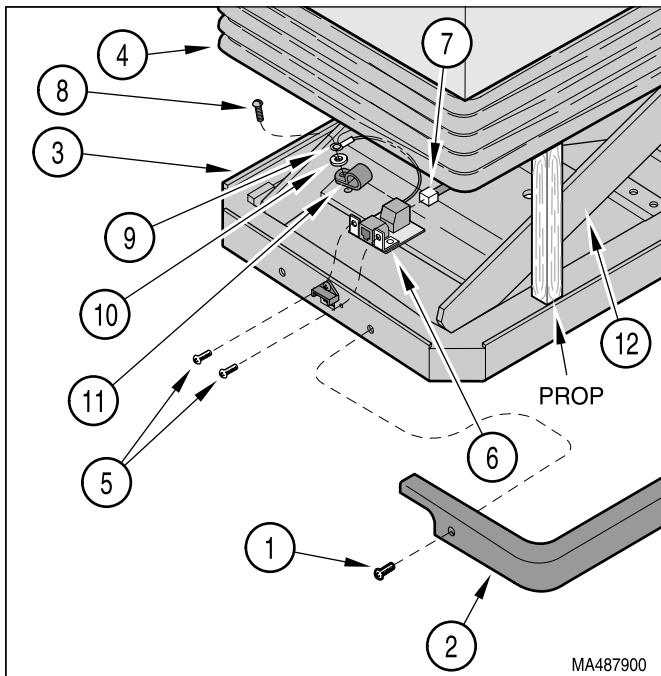

Figure 4-35. Foot Control Inlet Board Removal / Installation
- (2) Unplug table power cord from wall outlet.
- (3) Remove four screws (1, Figure 4-35) and two bellows retainer trim (2) from lower base weldment (3).
- (4) Raise bellows (4) and support in the up position with a prop.
- (5) Remove two screws (5); then remove foot control inlet board (6) from lower base weldment (3) by gently pulling modular cord (7).
- (6) Remove screw (8), ground wire (9), lock-washer (10) and cable clamp (11) from scissor base (12).
- (7) Disconnect modular cord (7) from foot control inlet board (6) and remove inlet board from lower base weldment (3).